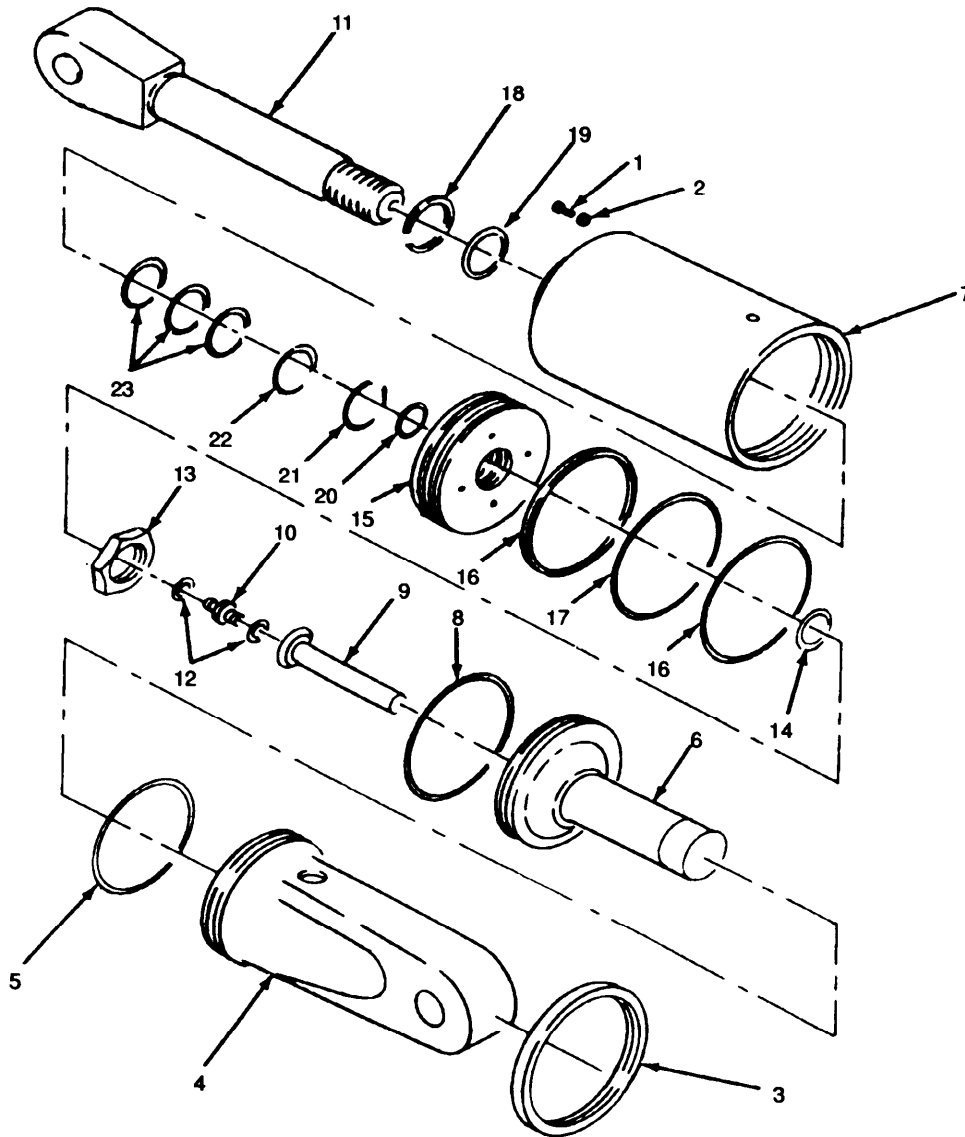

Figure 3-9. Hydraulic Cylinder and Piston, Repair.
- (9) Position hydraulic cylinder (10) in ponton (11).
- (10) Install three hydraulic lines (8) and packings (9) as tagged.
- (11) Close yoke (4) partially and install pin (7), washers (6), and cotter pins(5).
- (12) Aline hydraulic cylinder (10)with cutout in ponton (11) and dose yoke (4) fully.
- (13) Install cylinder retaining pin (3) and remove eyebolt.
- (14) Install cover(2) and secure with six screws (NO TAG).
b. *Repairz* (figure 3-9)